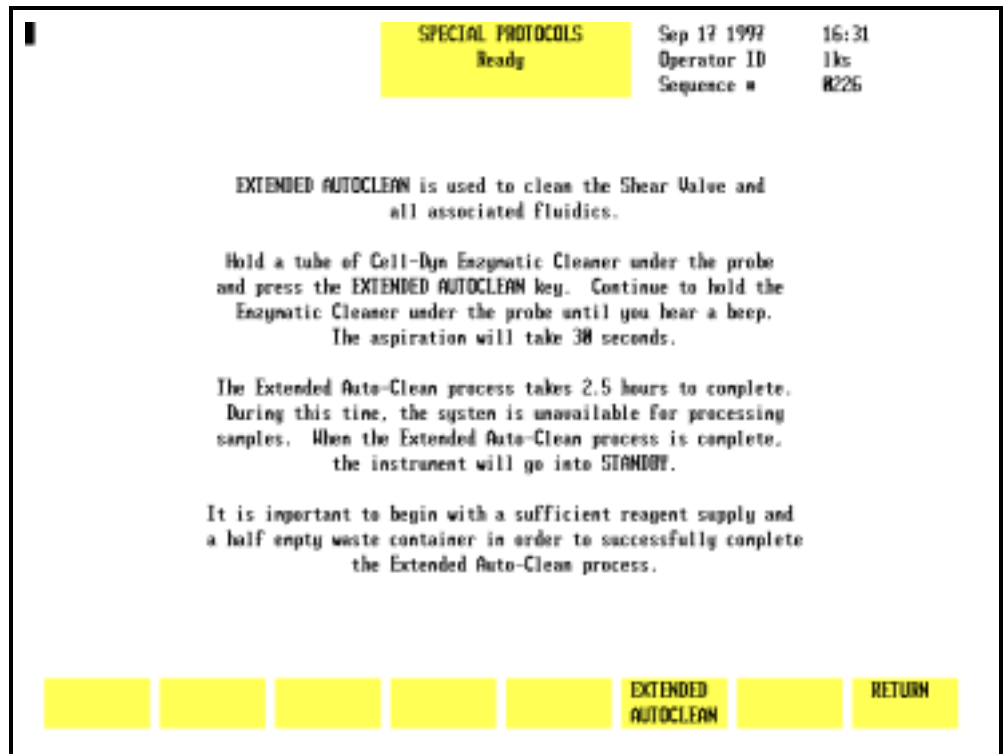

Figure 9.9: Special Protocols: Extended Auto-Clean Screen
Information on performing the Extended Auto-Clean procedure is displayed on the screen. (Refer to Figure 9.9.)
4. Follow the instructions shown on the screen. (Refer to Figure 9.9.)